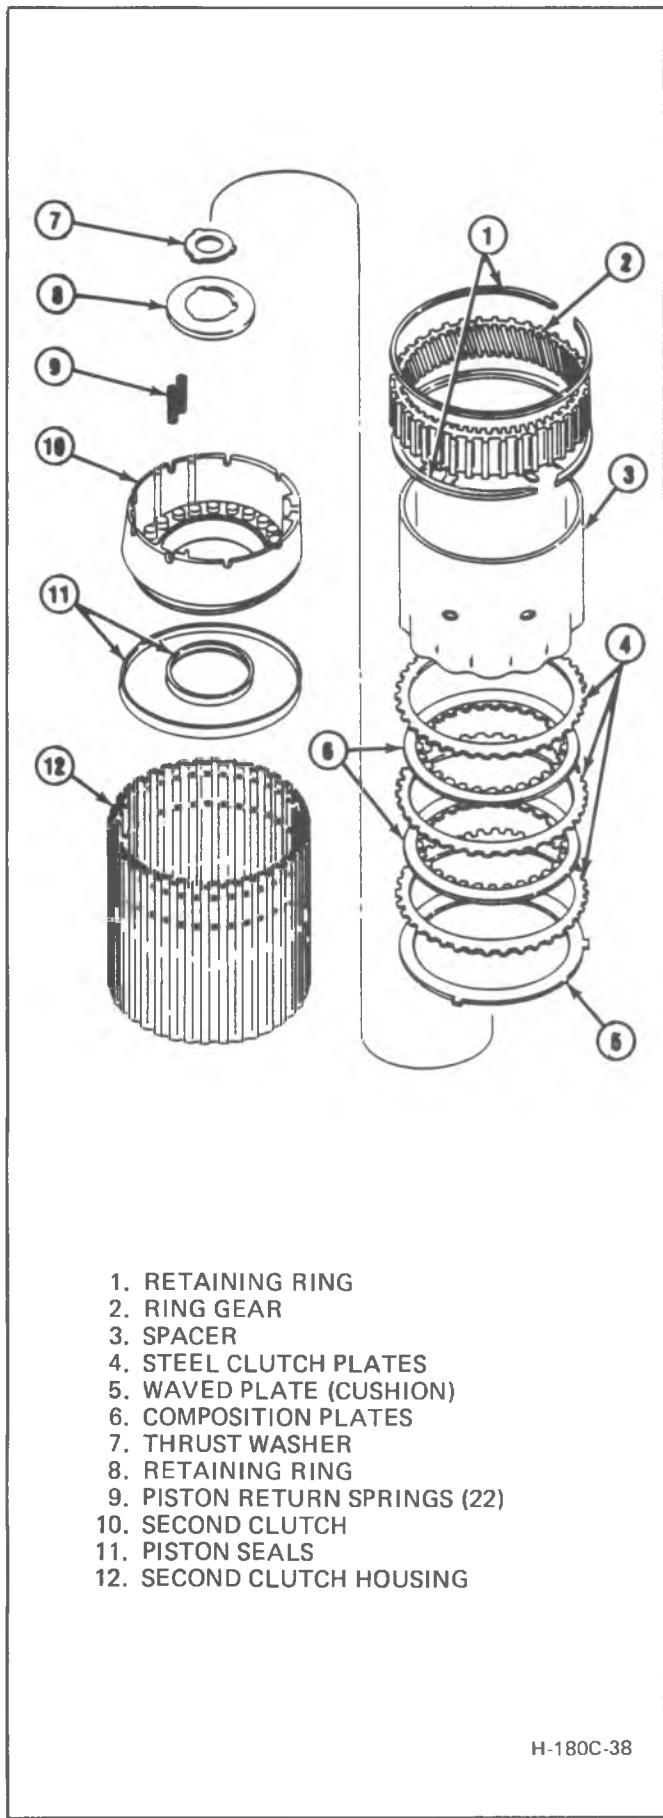

Figure 32 Second Clutch
Second Clutch**Disassemble (Figure 32)**
**Disassemble (Figures 32, 33 and 34)****Tools Required**
Assemble (Figure 32)